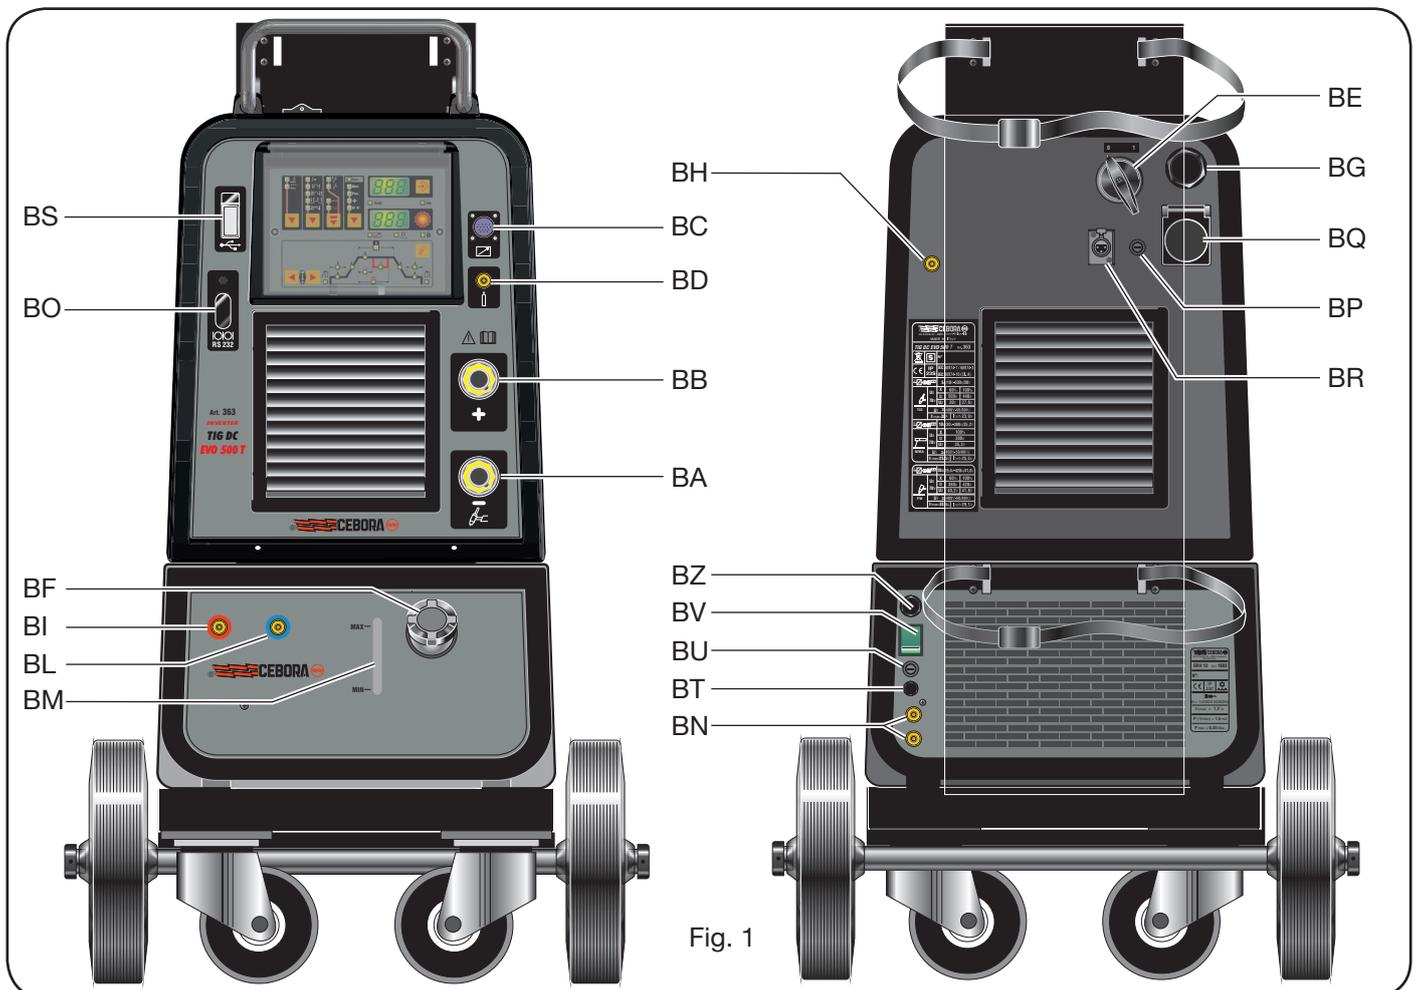

Fig. 1
3.2 BESKRIVNING AV SVETSEN (fig. 1)